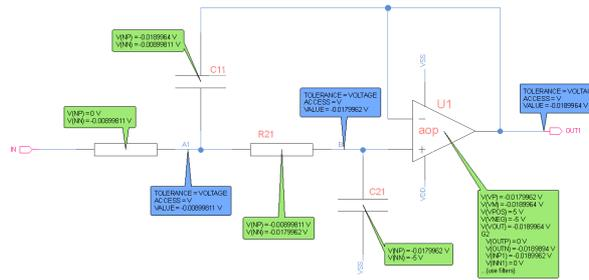

Figure 5: Schematic with back annotation bubbles
1) With "Back Annotation" (see Figure 5), used to display the results of SMASH operating-points in SLED, designers can observe, depending on the back-annotation filter settings, the results of "Active Text" changes directly on the schematics.